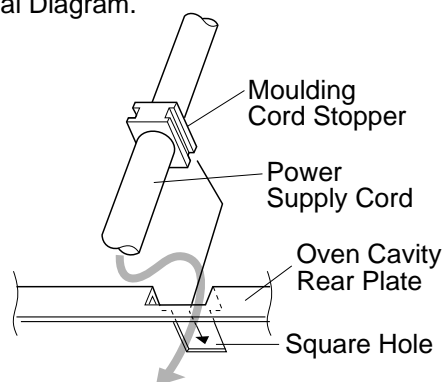

Figure C-3. Power Supply Cord Replacement
1. Insert the moulding cord stopper of power supply cord into the square hole of the oven cavity rear plate, referring to the Figure C-3.